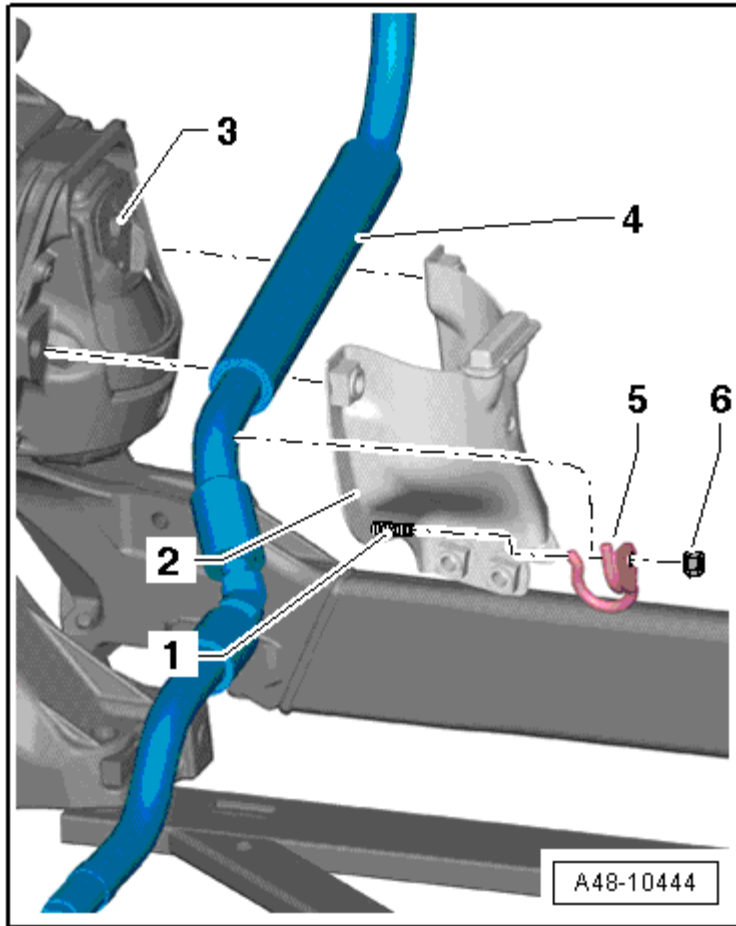

Fig. 25: Pressurized Line To Engine Mount
9. Pressurized line to the engine mount, refer to **Fig. 25**